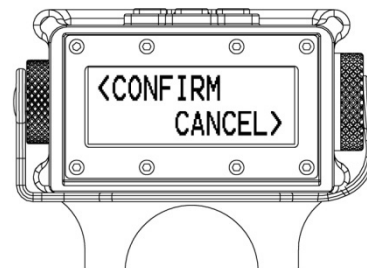

Figure 4-4
8. Press the  button to select this screen. BORS will prompt to "CONFIRM" or "CANCEL" the calibration as shown in Figure 4-4.